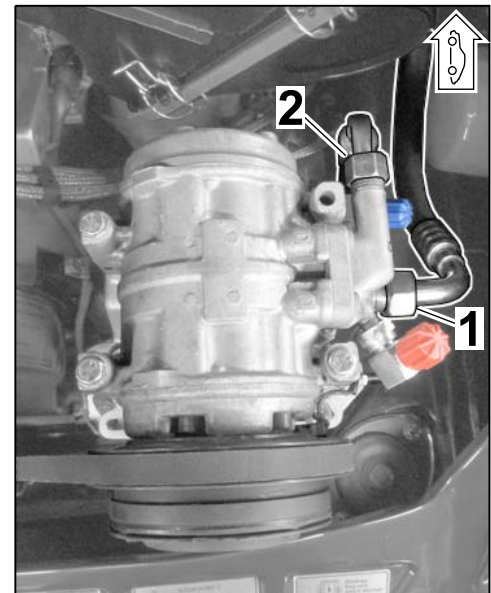

Figure 4
1.2.1 Unscrew hose connections. Close off connections and lines using stoppers (⇒ Figure 4).